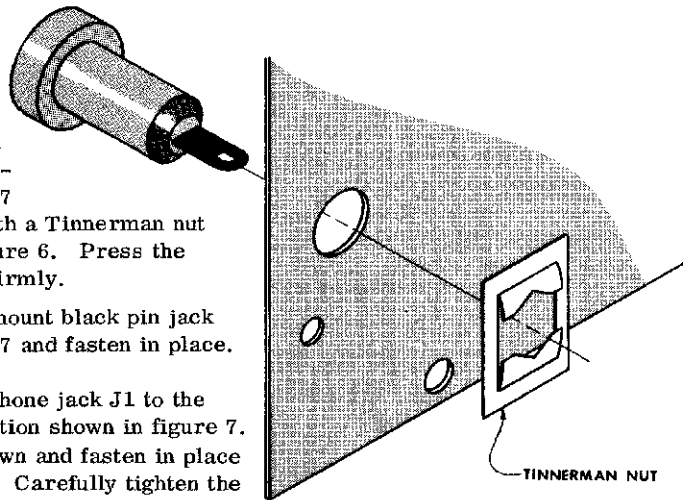
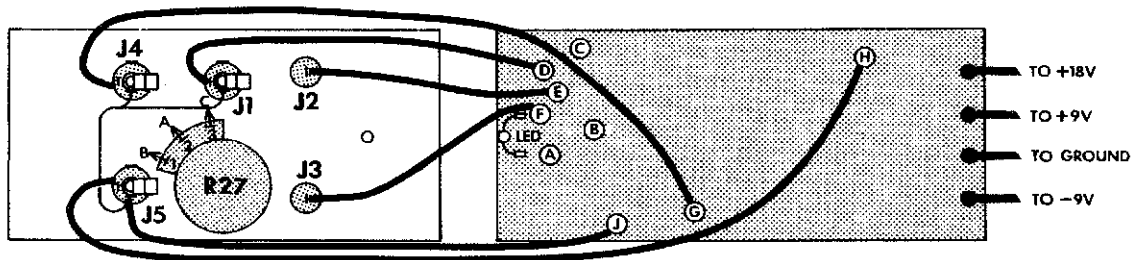

Figure 6
Figure 7
- () Place a black pin jack (J2) in the hole provided as shown in figure 7 and fasten in place with a Tinnerman nut as shown in detail figure 6. Press the Tinnerman nut down firmly.
- () In a similar manner mount black pin jack J3 as shown in figure 7 and fasten in place.
- () Mount the miniature phone jack J1 to the front panel in the position shown in figure 7. Orient the jack as shown and fasten in place with the nut provided. Carefully tighten the nut **completely**. If the nut is of the knurled type it may be tightened by putting the points of the jaws of a small pair of diagonal cutters into the notches in the nut and using the cutters as a spanner.
- () Mount the 5K ohm potentiometer in the location shown in figure 7. Use the two 3/8 inch nuts provided, one behind the front panel as a spacer and the second on the front side of the panel to secure the potentiometer. Adjust the rear nut so that none of the threaded bushing of the control is exposed when the nut is tightened down. This will allow the control knob which will be mounted in a later step to seat as closely as possible to the front panel. Orient the potentiometer precisely as illustrated.
- () Using the bare wire provided make connections between the ground lugs of phone jacks J1, J4 and J5. These are the bottom lugs of each jack when the panel is oriented as in figure 7. At J4 this wire need only be passed through the hole in the lug, a tight crimp connection is not necessary. Solder the wire at jacks J1 and J4 but **DO NOT SOLDER TO LUG J5 AT THIS TIME**.
- () Route the wire originating at point "C" on the circuit board between pin jacks J2 and J3 and attach it to lug 3 on potentiometer R27 as shown in figure 7. SOLDER THIS CONNECTION.